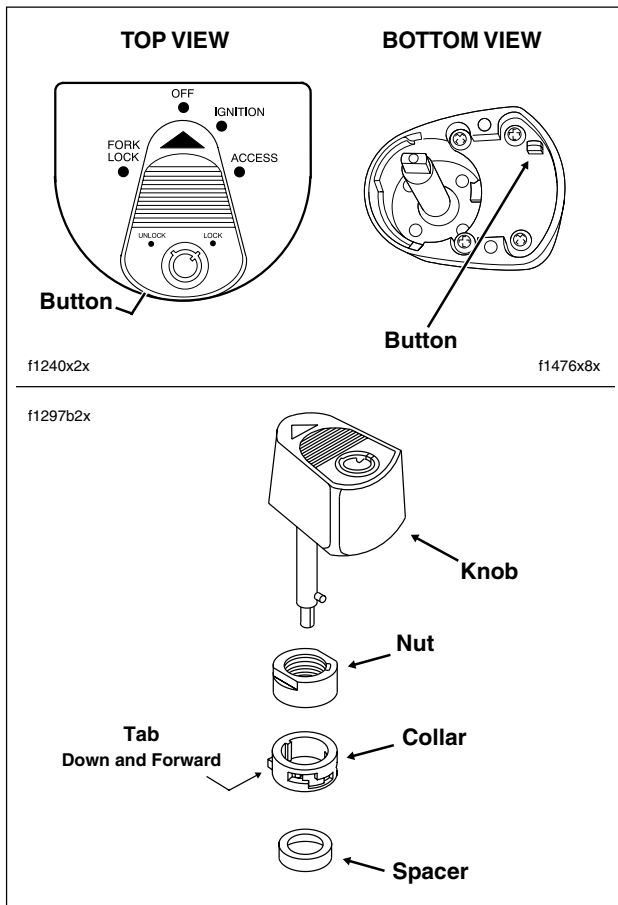

Figure 2-150. Ignition Switch Knob (Domestic)
- a. See upper frame of Figure 2-150. To remove the ignition switch knob, insert the Ignition Switch key and turn to the UNLOCK position. Leaving the key installed, rotate the knob to ACCESS. Depressing the release button at bottom (left side) with a small screwdriver, push key down and turn an additional 60 degrees in a counter-clockwise direction. Lift and remove knob.
- b. Using a 7/8 inch wrench on flats, loosen switch nut and remove from threaded post of ignition switch housing. Remove collar and spacer. See lower frame of Figure 2-150.